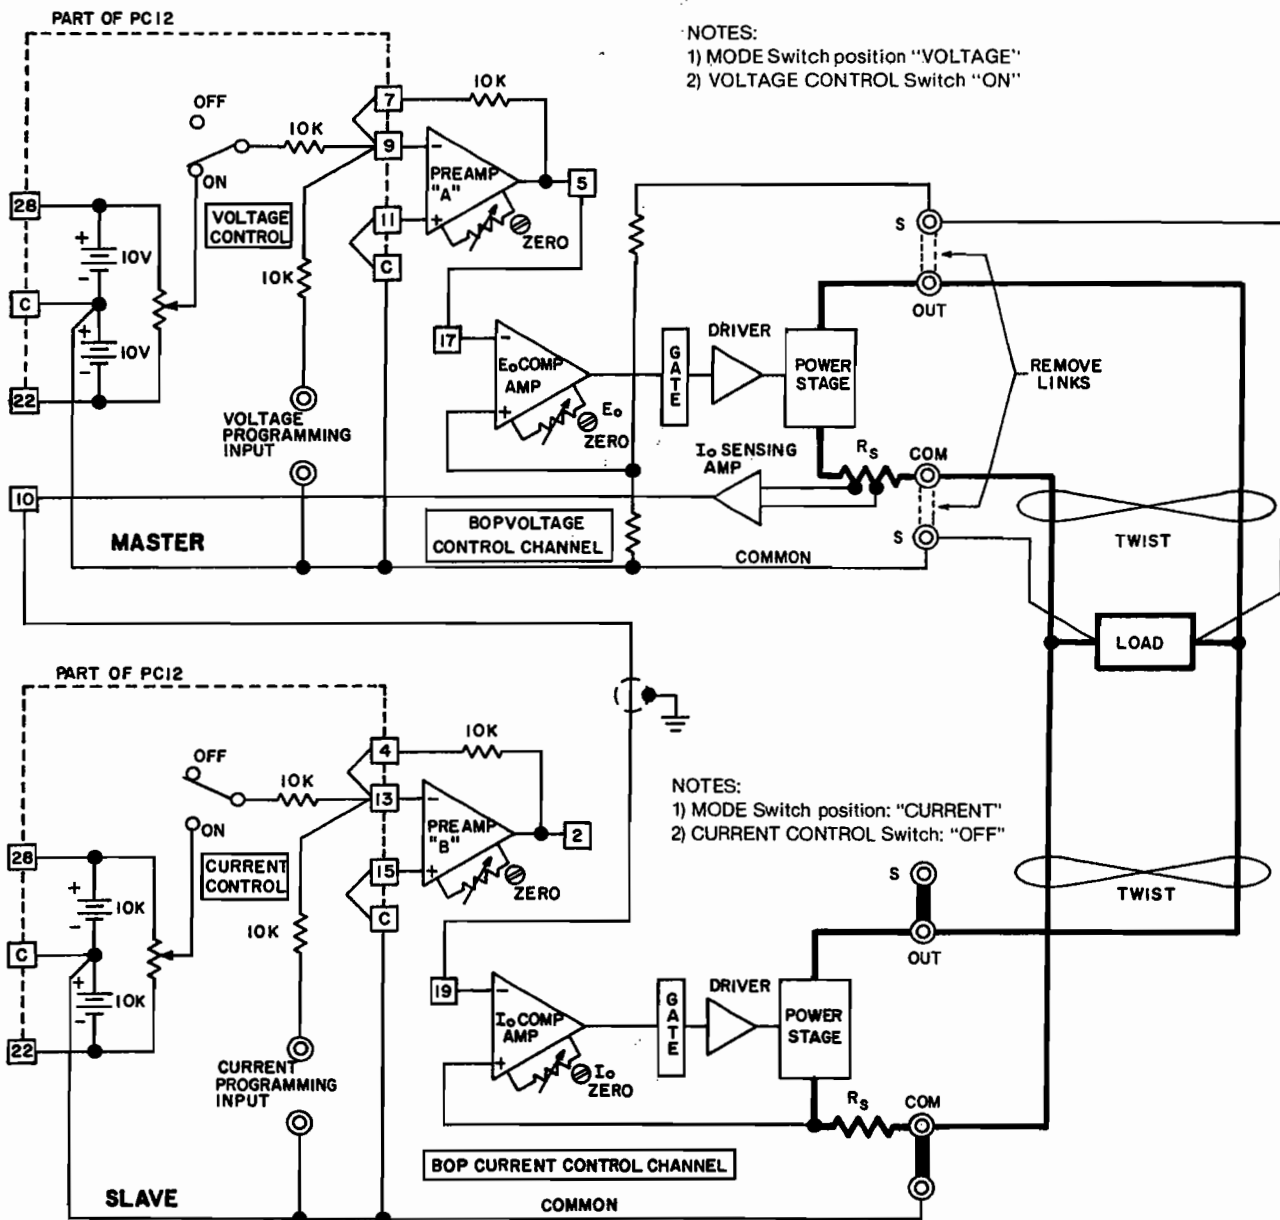

FIG. 3-27 MASTER/SLAVE PARALLEL CONNECTION OF TWO BOP POWER SUPPLIES
- 1) Connect the BOP supplies as shown in FIG. 3-27. Set the MODE switches and the VOLTAGE and CURRENT CONTROL switches as directed in the set-up Diagram, FIG. 3-27. Load-wire size should be as large as practicable and load-wire pairs should be twisted to keep the d-c resistance, as well as the inductance, as low as possible. Use shielded cable for the drive signal connection between the BOP's. Connect the shield to common ground. Either the positive or the negative output side of the system can be grounded.
- 3) Following the set-up procedure as described above, turn BOP's "on" and commence operation. The system as shown in the set-up diagram (FIG. 3-27) operates in the Voltage Mode, since the MASTER MODE switch is in "VOLTAGE" position. For operation in the current mode, transfer the MASTER MODE switch to "CURRENT".
- 3-44 To add more BOP units to the parallel system shown in FIG. 3-27, simply place the output leads of the unit to be added in parallel to the load. Set its MODE switch to CURRENT and its CURRENT CONTROL switch to OFF. Now connect another shielded cable from the BOP designated MASTER in FIG. 3-27, terminal [10] on PC-12, to the new BOP to be added, PC-12 terminal [19].